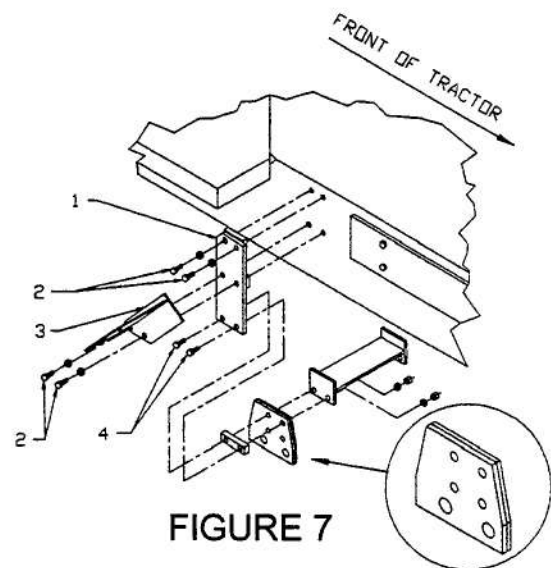

FIGURE 7
e) Install rear right support bracket (fig.7, item 1) on tractor, with welded shims towards tractor. Secure bracket to tractor frame using two bolts 14 mm X 1.5 mm X 50 mm (fig.7, item 2) with lockwashers. At the same step, install valve support bracket (fig.7,item3) using two bolts M14 X 50 mm (fig.7, item 2) with lockwashers. Do not tighten yet.
- f) Install valve (supplied by Kubota) on the valve support bracket (fig. 7, item 3) for installation of controller, please refer to Kubota valve kit manual.